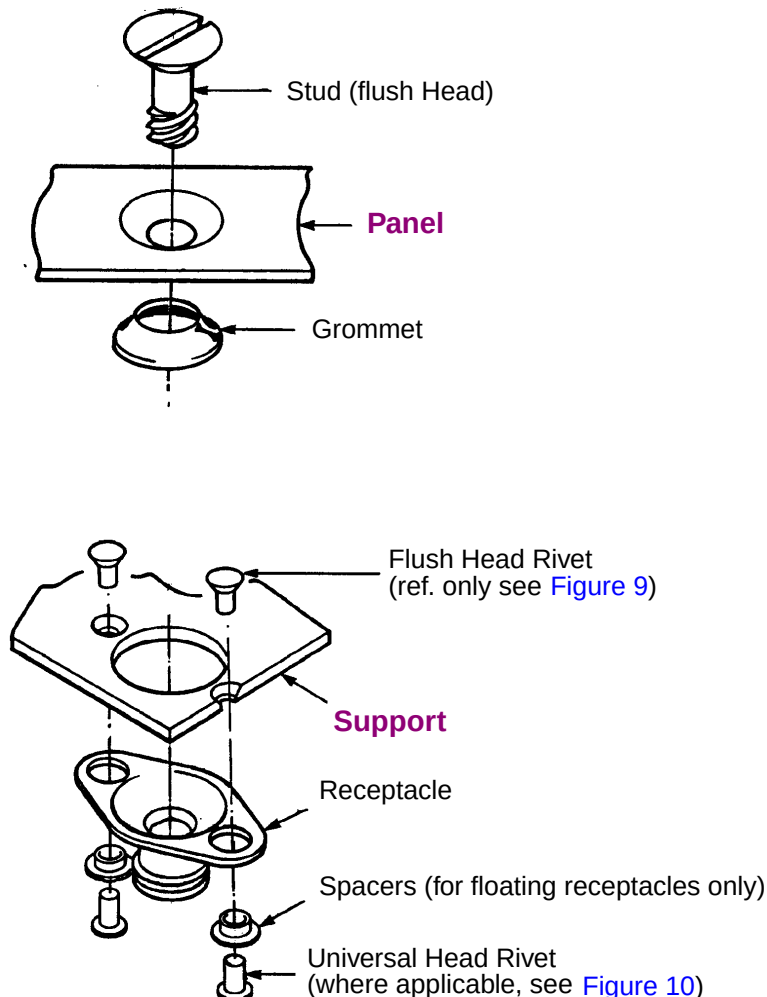

Figure 1 - Exploded View of Dzus Fastener Assembly
- Refer to Figure 1 for an exploded view of the Dzus fastener assembly.